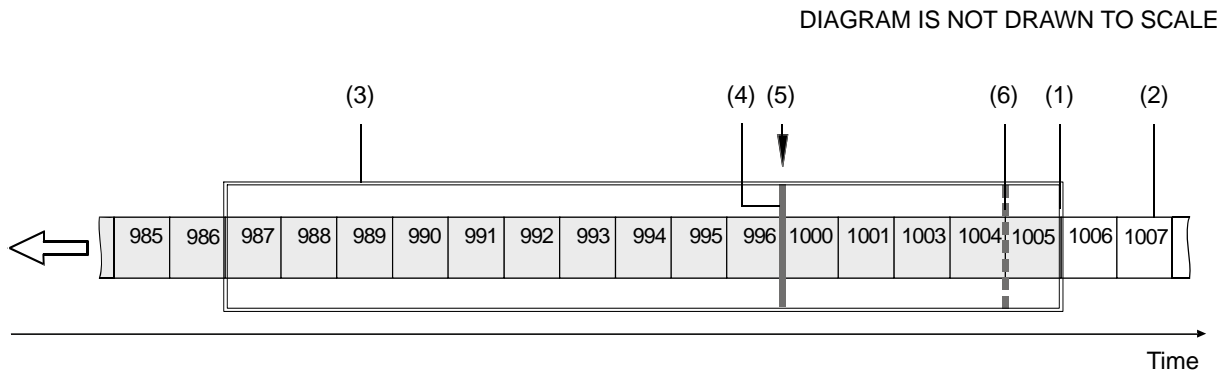

Fig. 28: Example of a Receive Window with Resend Request Threshold & Resend Request Batching Threshold
The threshold resend request mechanism is illustrated in Figure 28 where the following assumptions are made:
- (1) Front end of the receive window. Missing packets are detected here.
- (2) Stream of packets. Gray indicates that the status was checked as the packet entered the receive window. White indicates that the status has not yet been checked.
- (3) Receive window of the performance driver.
- (4) Threshold for sending resend requests (resend request threshold).
- (5) A separate resend request is sent for each packets 997, 998, and 999.
- (6) Threshold for batching resend requests for consecutive missing packets (resend request batching threshold). Only one resend request will be sent for the consecutive missing packets.
**Resend Request Threshold** - This parameter determines the location of the resend request threshold within the receive window as shown in Figure 28. The parameter value is in per cent of the width of the receive window. In Figure 28 the resend request threshold is set at 33.33% of the width of the receive window.
A stream of packets advances packet by packet beyond the resend request threshold (i.e. to the left of the resend request threshold in Figure 28). As soon as the position where a packet is missing advances beyond the resend request threshold, a resend request is sent for the missing packet.
In the example shown in Figure 28, packets 987 to 1005 are within the receive window and packets 997 to 999 and 1002 were detected as missing. In the situation shown, a resend request is sent to the camera for each of the missing consecutive packets 997 to 999. The resend requests are sent after packet 996 - the last packet of the intact sequence of packets - has advanced beyond the resend request threshold and before packet 1000 - the next packet in the stream of packets - can advance beyond the resend request threshold. Similarly, a resend request will be sent for missing packet 1002 after packet 1001 has advanced beyond the resend request threshold and before packet 1003 can advance beyond the resend request threshold.
**Resend Request Batching** - This parameter determines the location of the resend request batching threshold in the receive window (Figure 28). The parameter value is in per cent of a span that starts with the resend request threshold and ends with the front end of the receive window. The maximum allowed parameter value is 100. In Figure 28 the resend request batching threshold is set at 80% of the span.
If the Resend Request Batching parameter is set to 0, no batching will occur and a resend request will be sent for each single missing packet. For other settings, consider an example: Suppose the Resend Request Batching parameter is set to 80 referring to a span between the resend request threshold and the front end of the receive window that can hold five packets (Figure 28). In this case 4 packets ( $5 \times 80\%$ ) will fit into the span between the resend request threshold and the resend request batching threshold. Accordingly, the maximum number of consecutive missing packets that can be batched is 5 ( $4 + 1$ ).